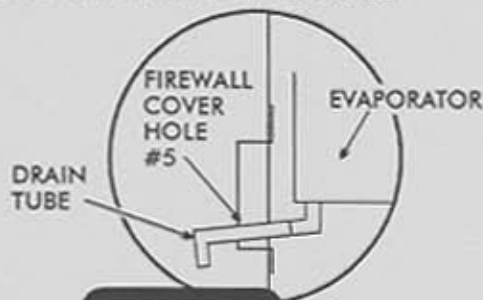

FIGURE 22
- POSITION THE 90 DEGREE FITTING FACING DOWN. SEE FIGURE 22.
- TYE WRAP THE HEATER HOSES TO THE #10 RUBBER HOSE. SEE FIGURE 22.